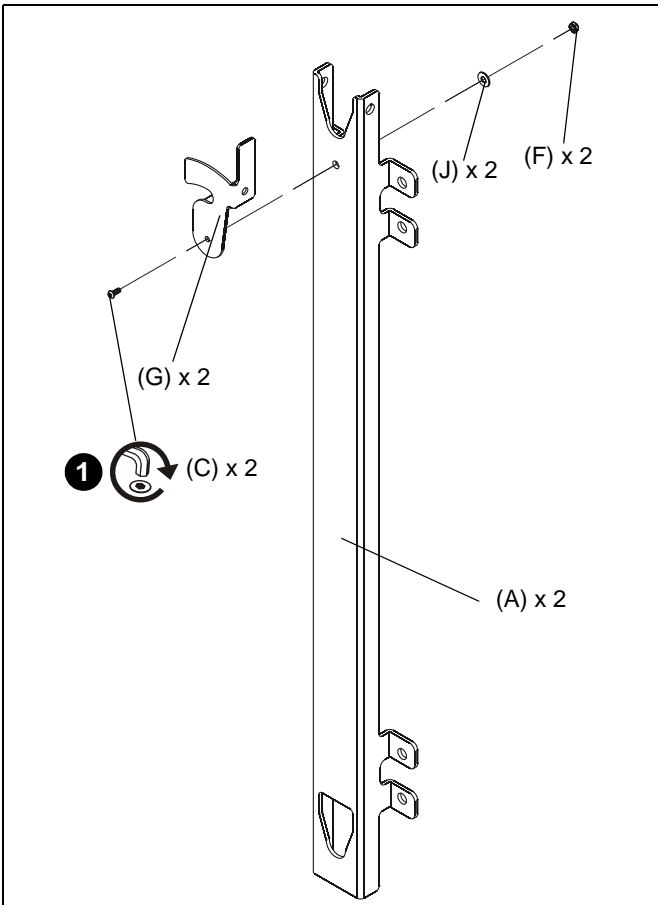

Figure 1
1. Attach locking flags (G) to two of four vertical brackets (A) by installing two M8 x 20mm button head cap screws through lower hole on locking flags, upper hole on vertical brackets, M8 washers (J) and into two M8 lug nuts (F). (See Figure 1)